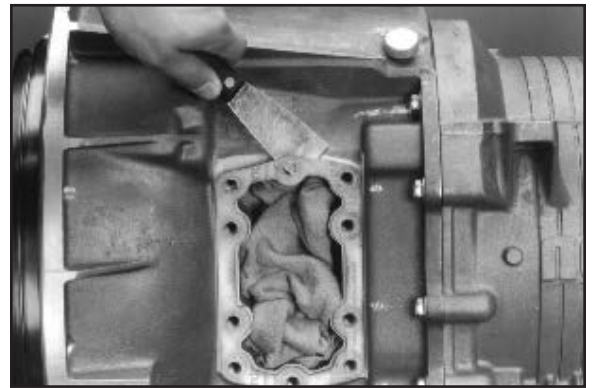

Figure 9
7. Remove the gasket and clean the aperture surface (**Fig. 9**).